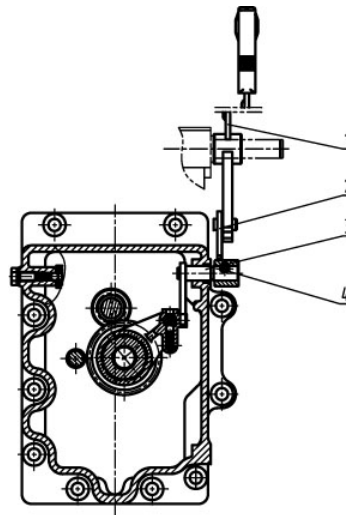

Figure 6-7 Adjustment of the auxiliary shift control lever
Move the auxiliary shift control lever (1) to make the auxiliary shift control lever (3) in the neutral position. Follow the instructions by pushing and pulling the auxiliary shift control lever (1) to shift to the high and low gears to ensure smooth shifting (see Figure 6-7).